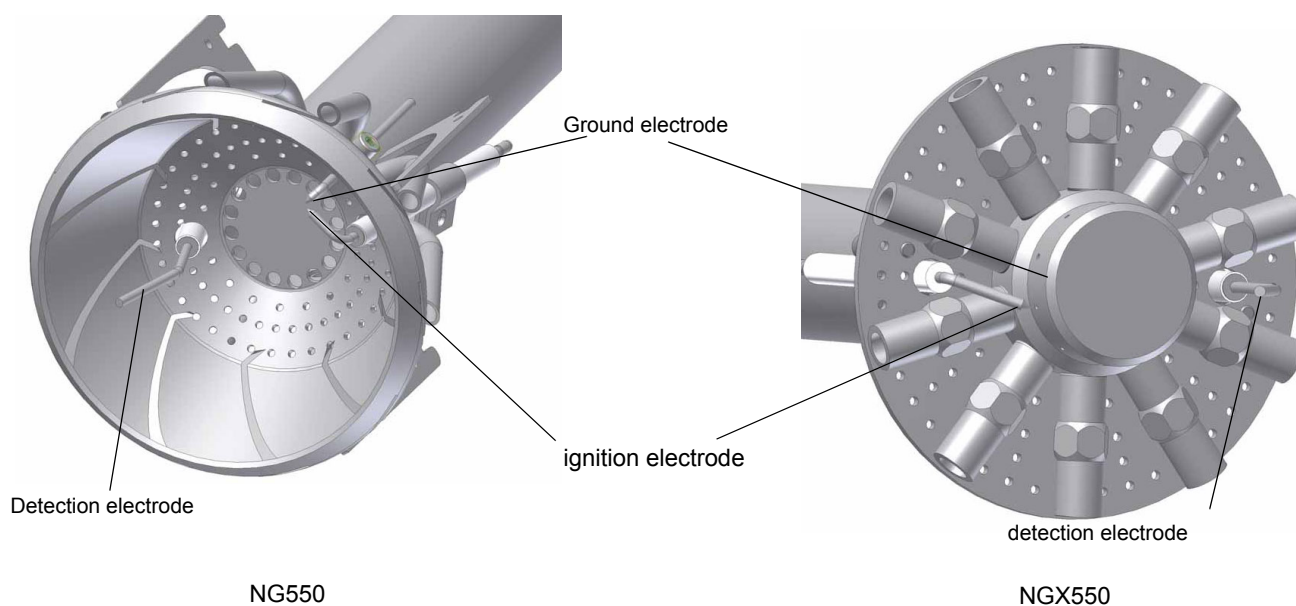
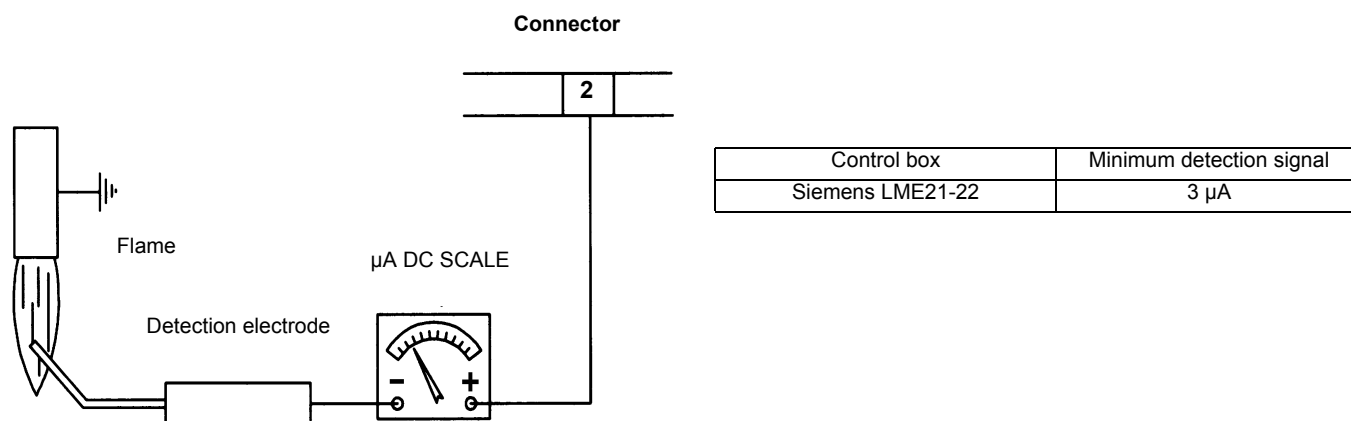

Fig. 50
Fig. 51
- Check the ignition and detection electrodes, clean and adjust if necessary (see Fig. 50). In case of doubt, check the detection current according to the schemes in Fig. 51.
ATTENTION: avoid the ignition and detection electrodes to contact metallic parts (blast tube, head, etc.), otherwise the boiler's operation would be compromised. Check the electrodes position after any intervention on the combustion head. The gap between the ignition electrode and the ground is 4 ± 5 mm (see Fig. 50).
If the burner locks out, execute the following inspections. To measure the detection signals refer to the diagrams in Fig. 51. If the signal is less than the value shown, check the position of the detection electrode, the electrical contacts and if necessary replace the detection electrode (see "Electrodes position setting" on page 35).